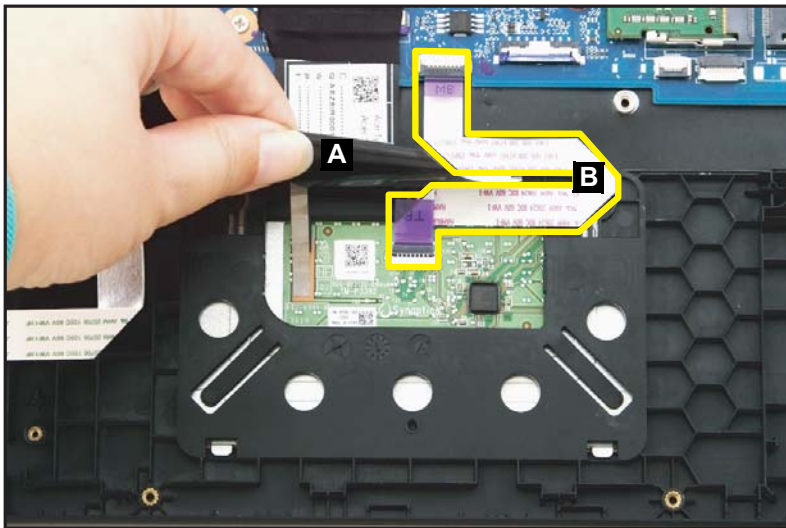

Figure 1-25. Touchpad Module Removal
1. Lift the keyboard FPC (A) for easy access to the touchpad module connector (Figure 1-25).
2. Disconnect the touchpad FFC (B) from the mainboard connector and from the touchpad board connector (Figure 1-25).